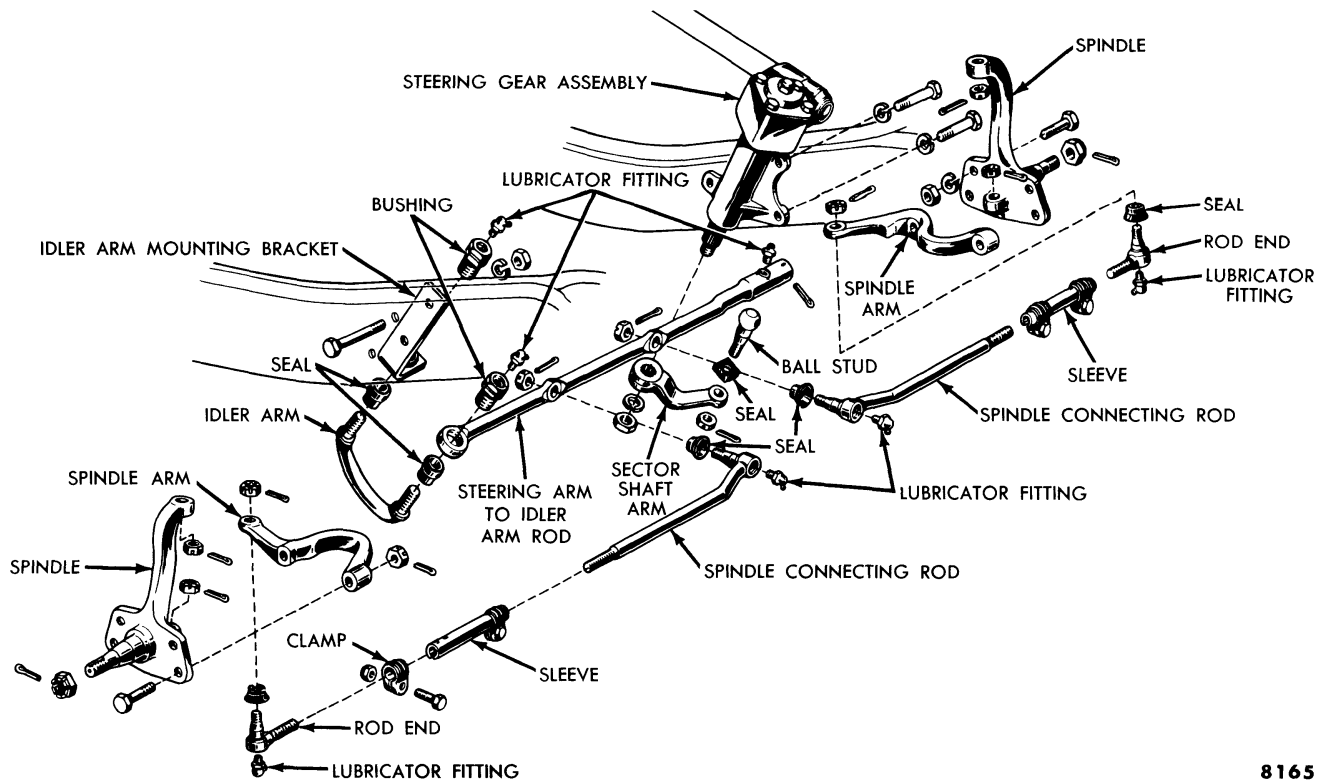

Fig. 31—Conventional Steering Linkage—Disassembled
(1) **SPINDLE CONNECTING ROD ENDS.** Remove the cotter pins and nuts which attach the spindle connecting rod ends to the spindle arm (fig. 31). Support the spindle arms near the spindle connecting rod end studs, then drive the studs out of the arms using a soft metal hammer. Loosen the connecting rod sleeve clamp bolts, then remove the rod ends from the spindle connecting rod sleeve.
(2) **STEERING ARM TO IDLER ARM ROD BALL SEATS.** Remove the cotter pin from the ball socket, then unscrew the threaded plug. Pull the socket off the steering arm ball stud. Remove the ball stud seats, springs, and spring guides from the socket (fig. 31). Clean all parts thoroughly with a suitable solvent. Replace all parts that are worn or damaged.
Install the spring guides, springs, and ball stud seats in the order shown in fig. 31. Position the ball socket on the steering arm ball stud, then install the threaded plug in the socket. Adjust the ball socket properly, then install a new cotter pin.
(1) **SPINDLE CONNECTING ROD.** Remove the cotter pin and nut which attach the spindle connecting rod end to the steering arm to idler arm rod (fig. 31).